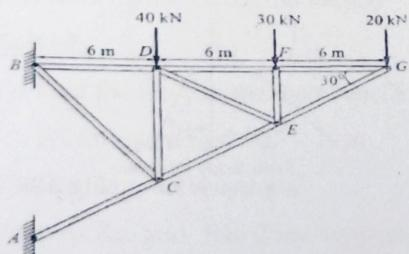

Fig 2.89
1) Find the forces in the members DF, DE, CE and EF by method of joints only for the pin jointed frame shown in fig 2.89.